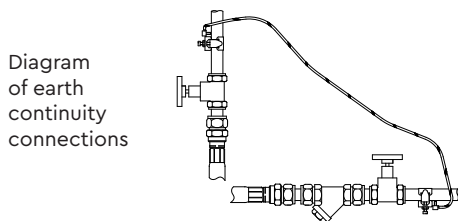

Fig. 4
- 4.16 **Adjacent pipes:** Adjacent suction and delivery pipes should be fitted with earthing clamps in accordance with current regulations (Fig. 4).